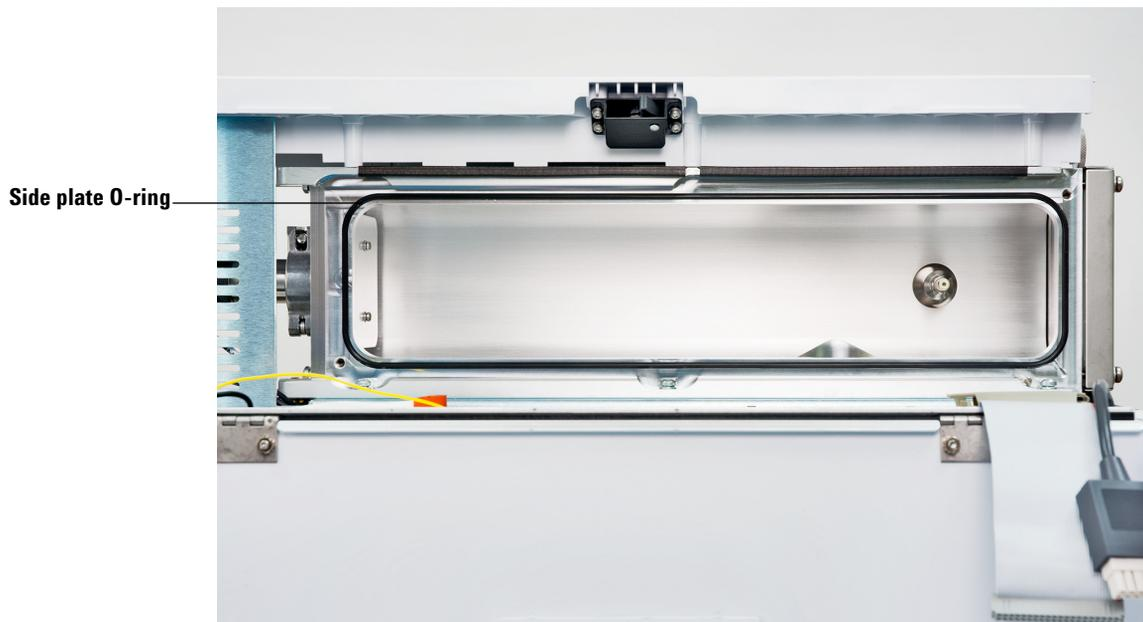

Figure 18 Side plate O-ring
- 3 Use a clean, lint-free cloth or glove to spread a *thin* coat of high vacuum grease only on the exposed surface of the O-ring (See Figure 18 on page 129).